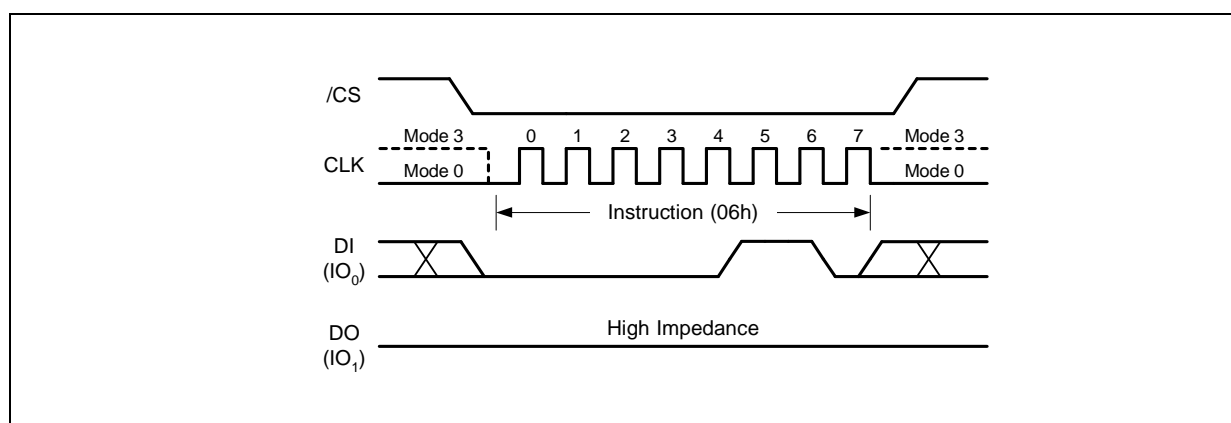

Figure 5. Write Enable Instruction for SPI Mode
Instructions vary in length from a single byte to several bytes and may be followed by address bytes, data bytes, dummy bytes (don't care), and in some cases, a combination. Instructions are completed with the rising edge of edge /CS. Clock relative timing diagrams for each instruction are included in Figures 5 through 57. All read instructions can be completed after any clocked bit. However, all instructions that Write, Program or Erase must complete on a byte boundary (/CS driven high after a full 8-bits have been clocked) otherwise the instruction will be ignored. This feature further protects the device from inadvertent writes. Additionally, while the memory is being programmed or erased, or when the Status Register is being written, all instructions except for Read Status Register will be ignored until the program or erase cycle has completed.
The Write Enable instruction (Figure 5) sets the Write Enable Latch (WEL) bit in the Status Register to a 1. The WEL bit must be set prior to every Page Program, Quad Page Program, Sector Erase, Block Erase, Chip Erase, Write Status Register and Erase/Program Security Registers instruction. The Write Enable instruction is entered by driving /CS low, shifting the instruction code "06h" into the Data Input (DI) pin on the rising edge of CLK, and then driving /CS high.